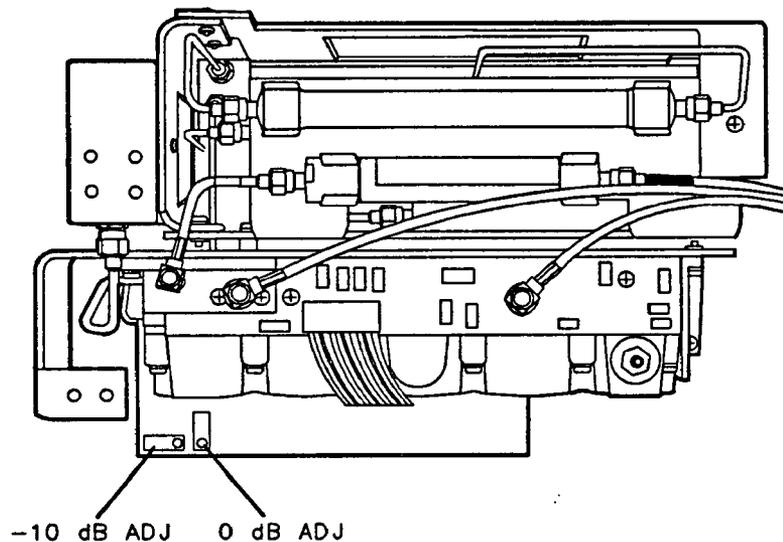

Figure 2-4. BITG Power Level Adjustment Locations
8. On the spectrum analyzer, press **SRC PWR ON OFF** (ON), 0, (dBm), (SGL SWP).
9. Adjust -10 dB ADJ (A3A15R13) for a 0 dBm \pm 0.05 dB reading on the measuring receiver. Refer to Figure 2-4 for adjustment location.
11. With the SRC PWR level set to -10 dBm , adjust -10 dB ADJ (A3A15R13) for a $-10 \text{ dBm} \pm 0.1 \text{ dB}$ reading on the measuring receiver. Refer to Figure 2-4 for adjustment location.
12. Set the SRC PWR level to 0 dBm . Adjust 0 dB ADJ (A3A15R18) for a $0 \text{ dBm} \pm 0.2 \text{ dB}$ reading on the measuring receiver. Refer to Figure 2-4 for adjustment location.